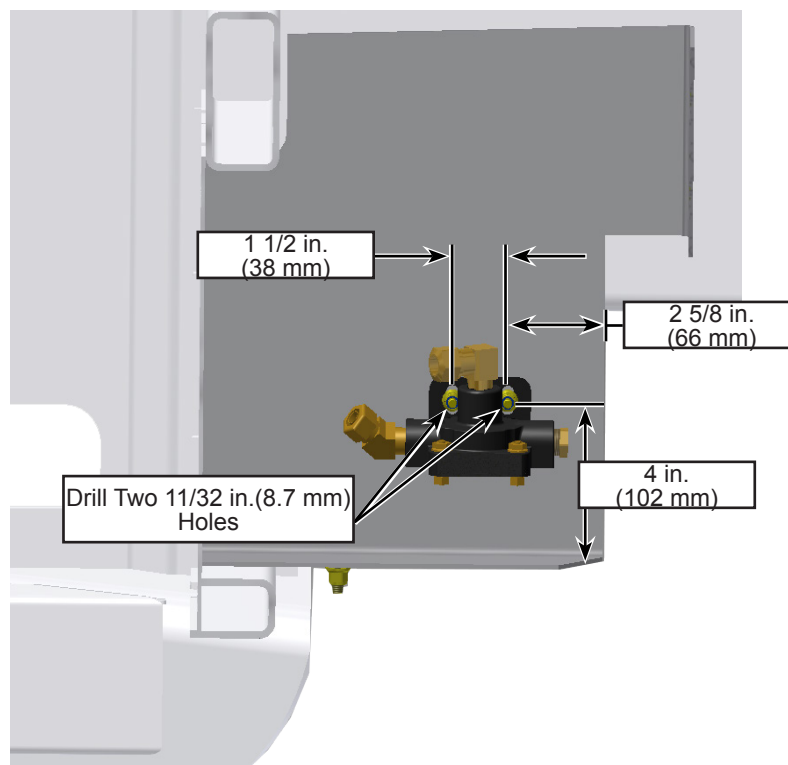

Figure 8 - Drill the Two Holes for the New Quick-Release Valve N90138
- 1.7. The new quick-release valve cannot use the original studs. Cut the studs and drill two holes as per Figure 8.